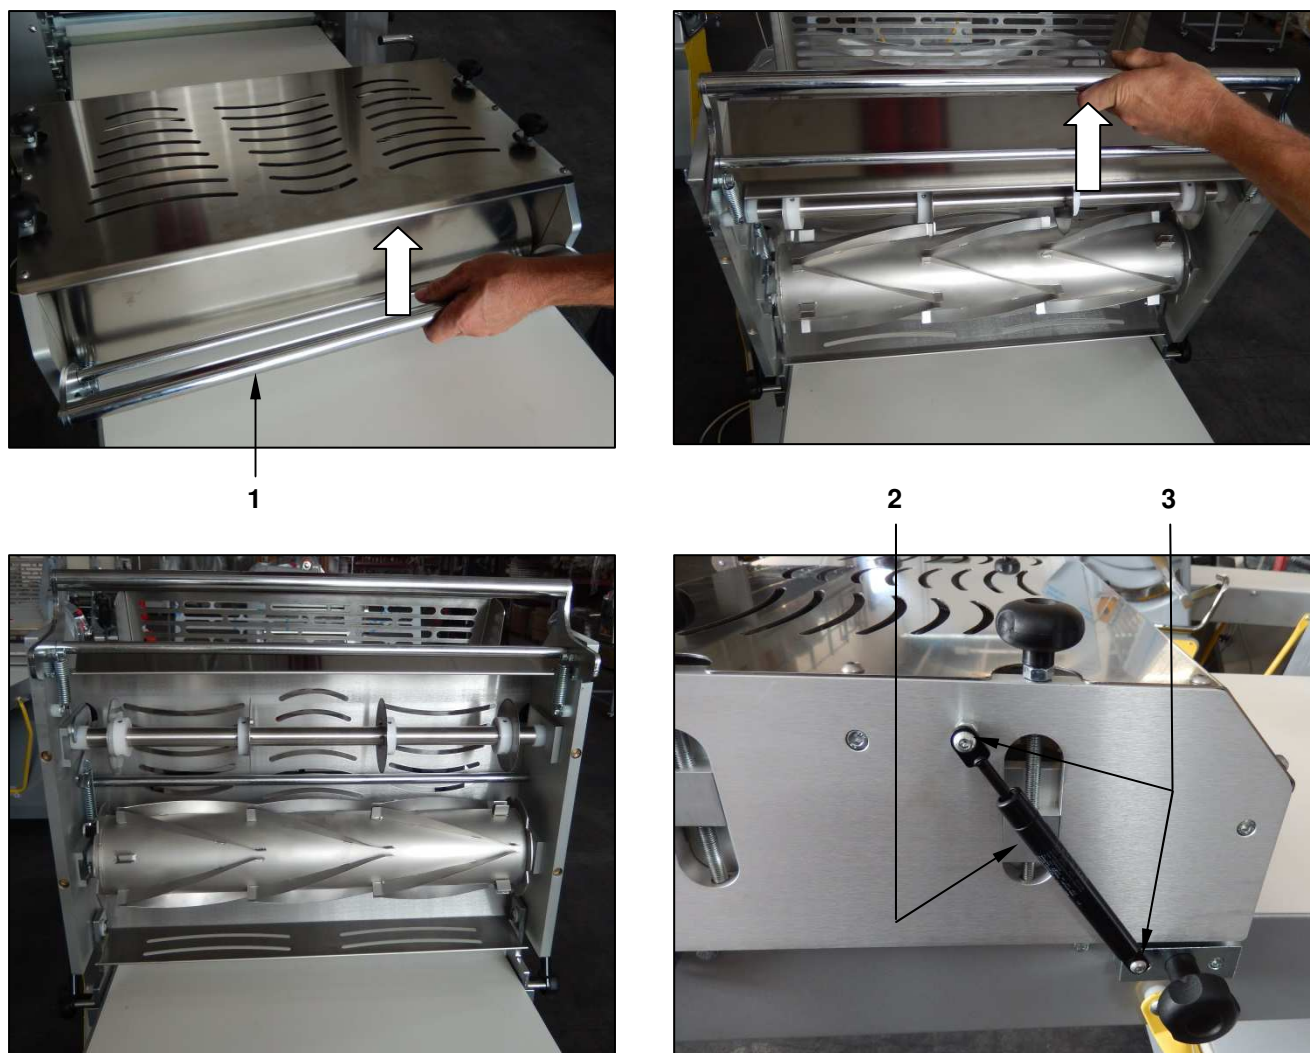

Figure 23 - Disabling the cutting unit
With reference to Figure 23, to use the machine as a sheeter whilst keeping the cutting unit mounted, simply release the cutting unit from the system that secures it to the table by lifting the release bar ref. 1 (to make this easier, push the unit down with one hand).
**WARNING! To prevent the unit from being raised too quickly** (pushed by the lateral gas springs ref. 2) **and risk being hit and bruised by it, guide it by hand as it is raised. In the event that the gas springs may be discharged, place the unit well back to prevent it from falling and subject persons to the risk of severe bruises and cuts and bruises.** If you notice that one or both gas springs no longer provide an adequate braking function, replace it/them immediately (simply remove the two screws ref. 3 at the ends). Only use original Starmix spare parts.